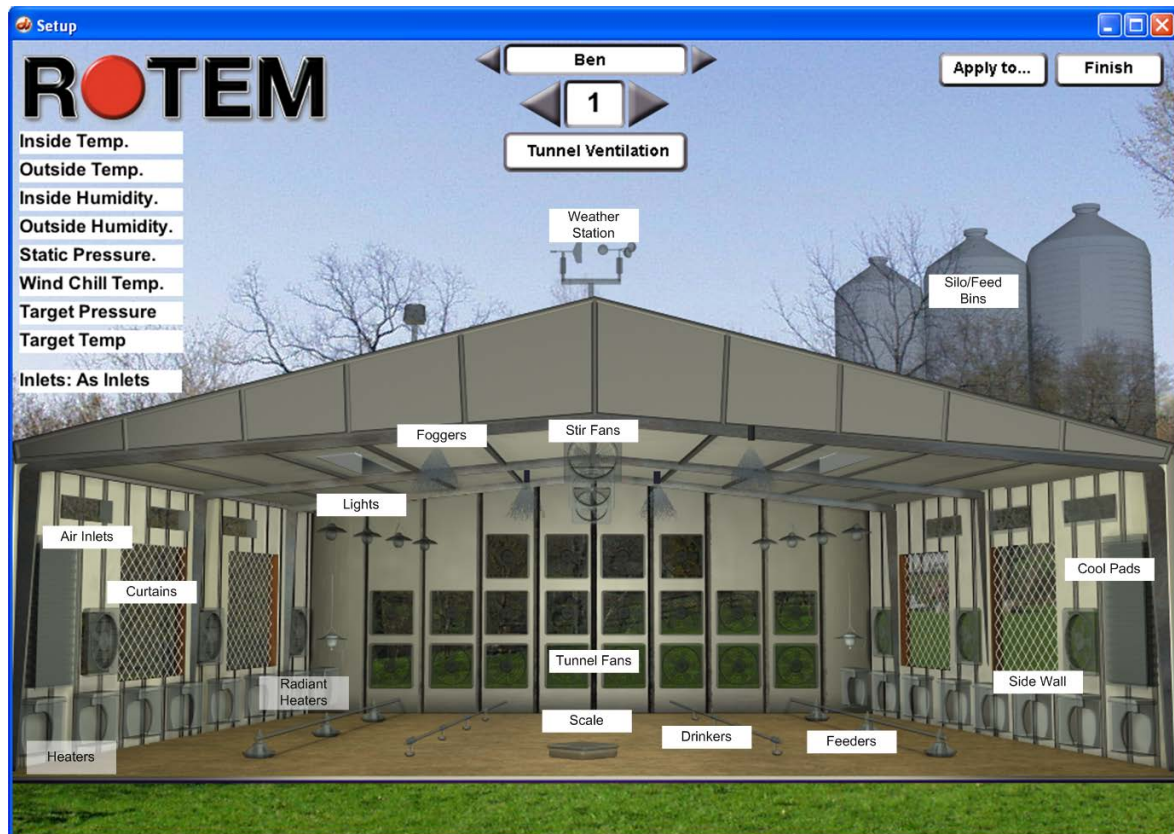

Figure 54: Poultry Operations
5. Set all required options (Figure 54).